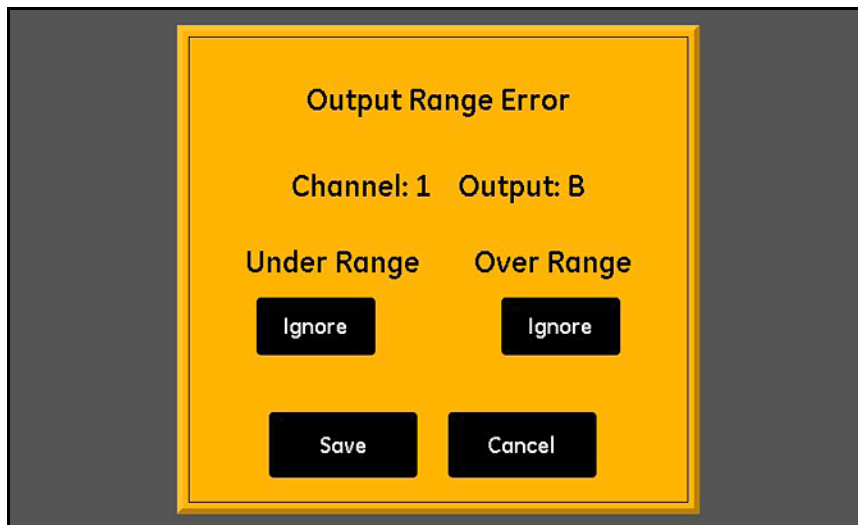

Figure 46: Range Error Setup Screen – Output Response
1. Tap the desired **Channel (1-6)** and **Output (A or B)**, and then tap the **Range Error** button to open a screen similar to *Figure 46* below.